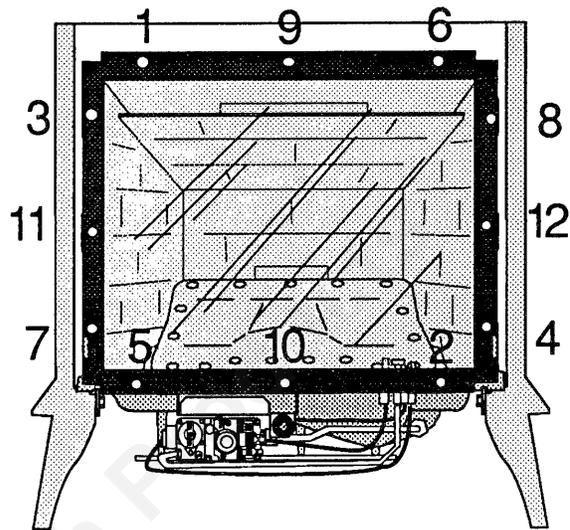

Figure 39. Remove the glass frame screws in an alternating pattern.
- Use a Phillips screwdriver to first alternately loosen and then remove the twelve screws that hold the glass frame to the stove. **Follow the pattern shown in Fig. 39. Uneven pressure can break the glass.**
Replace glass only with Vermont Castings Part # 160-1691. See Fig 39. and previous instructions for removal of the damaged glass panel.